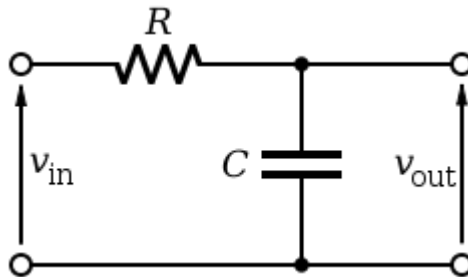

Figure 1: First Order Passive Low-Pass Filter
5. We need to suppress this noise by at least **10 dB**. Design a passive low pass filter by calculating the RC value of the filter. **Analyze the passive filter in Figure 1 and show the workings on how you get the RC value in your learning journal.** (Hint: Similar to your Week 9 Tutorial question)